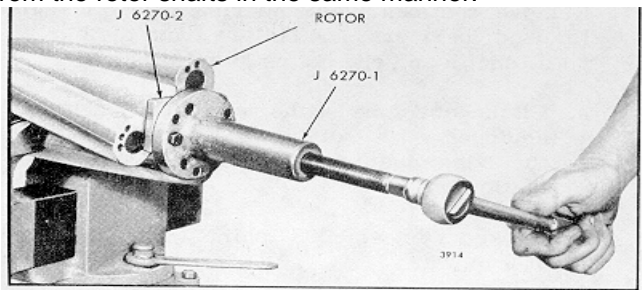

Fig. 10 - Removing Oil Seal Ring Carrier from Blower Rotor Shaft
- c. Place the long end of the oil seal remover and installer J 6270-3 down through the oil seal and into the bearing, with the opposite end of the remover under the ram of the press (Fig. 10). Then, press the bearing and oil seal out of the end plate.
d. Refer to Fig. 10 and place the seal ring carrier remover adaptor J 6270-2 over the carrier. Make sure the adaptor is seated in the groove of the carrier.
g. Turn the puller screw clockwise and pull the oil seal ring carrier from the rotor shaft (Fig. 10).